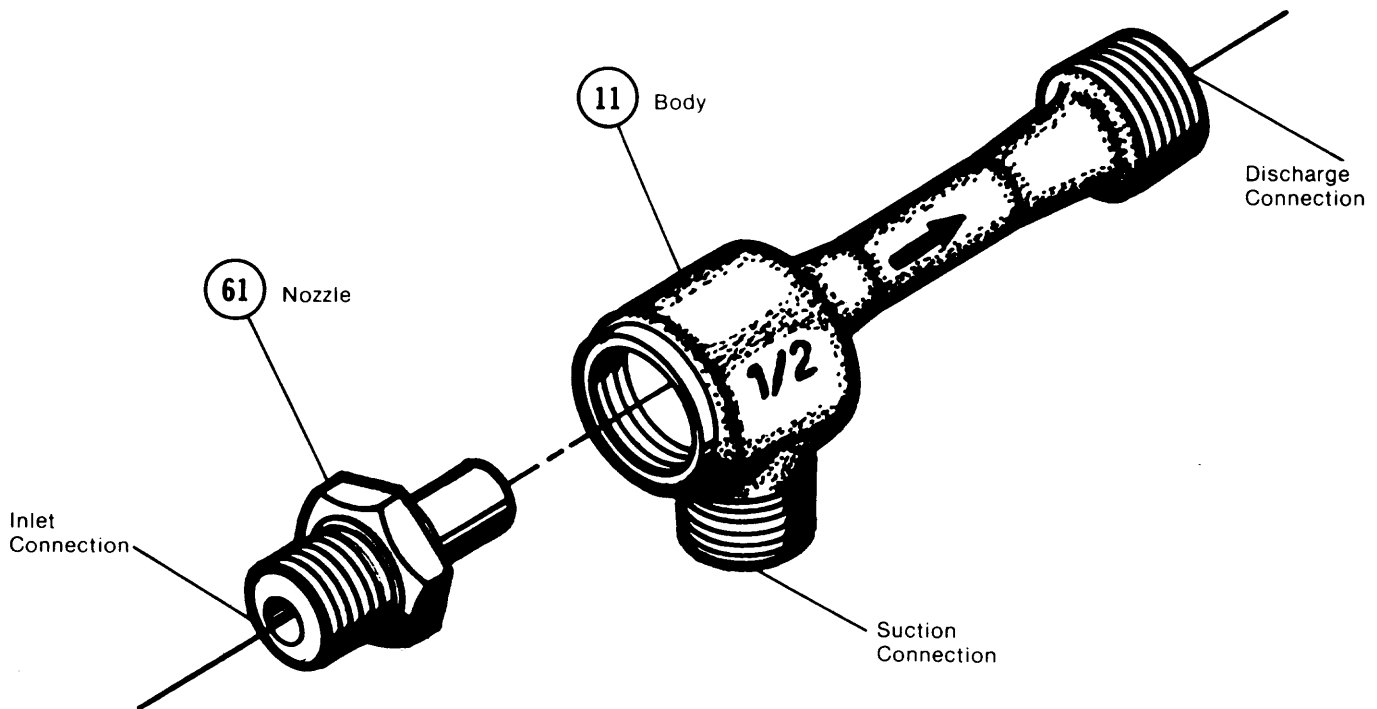

Figure 3
**A.** Check the exploded view Figure 3 for the location of operating, suction, and discharge connections to insure correct hook up.
The jet pump Models GL and GH are made up of two parts (see Figure 3), a nozzle (61) and a body (11) which are held together by a straight right hand mechanical thread.